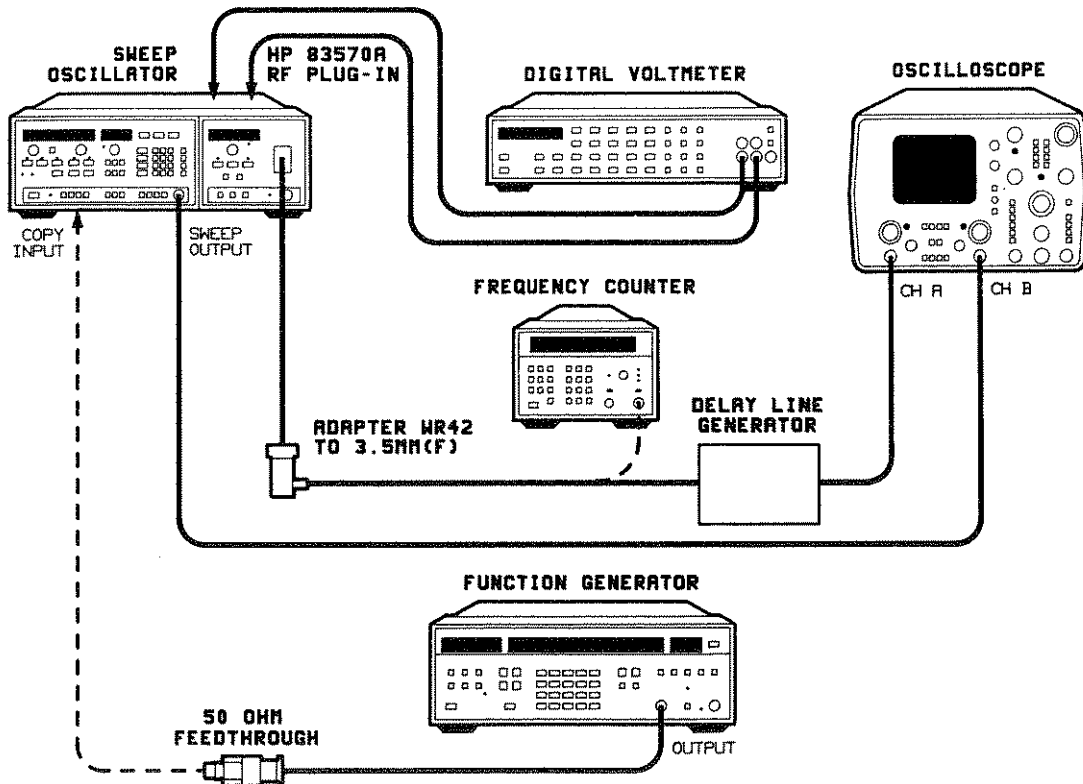

Figure 5-30. FM Adjustment Test Setup
1. The equipment in Figure 5-30 will be configured in the following procedure. In the interim, allow 30 minutes for warm-up for each instrument.
- Connect the equipment as shown in Figure 5-30 with the delay line discriminator connected to the RF OUTPUT and the function generator connected to the rear panel FM INPUT connector.